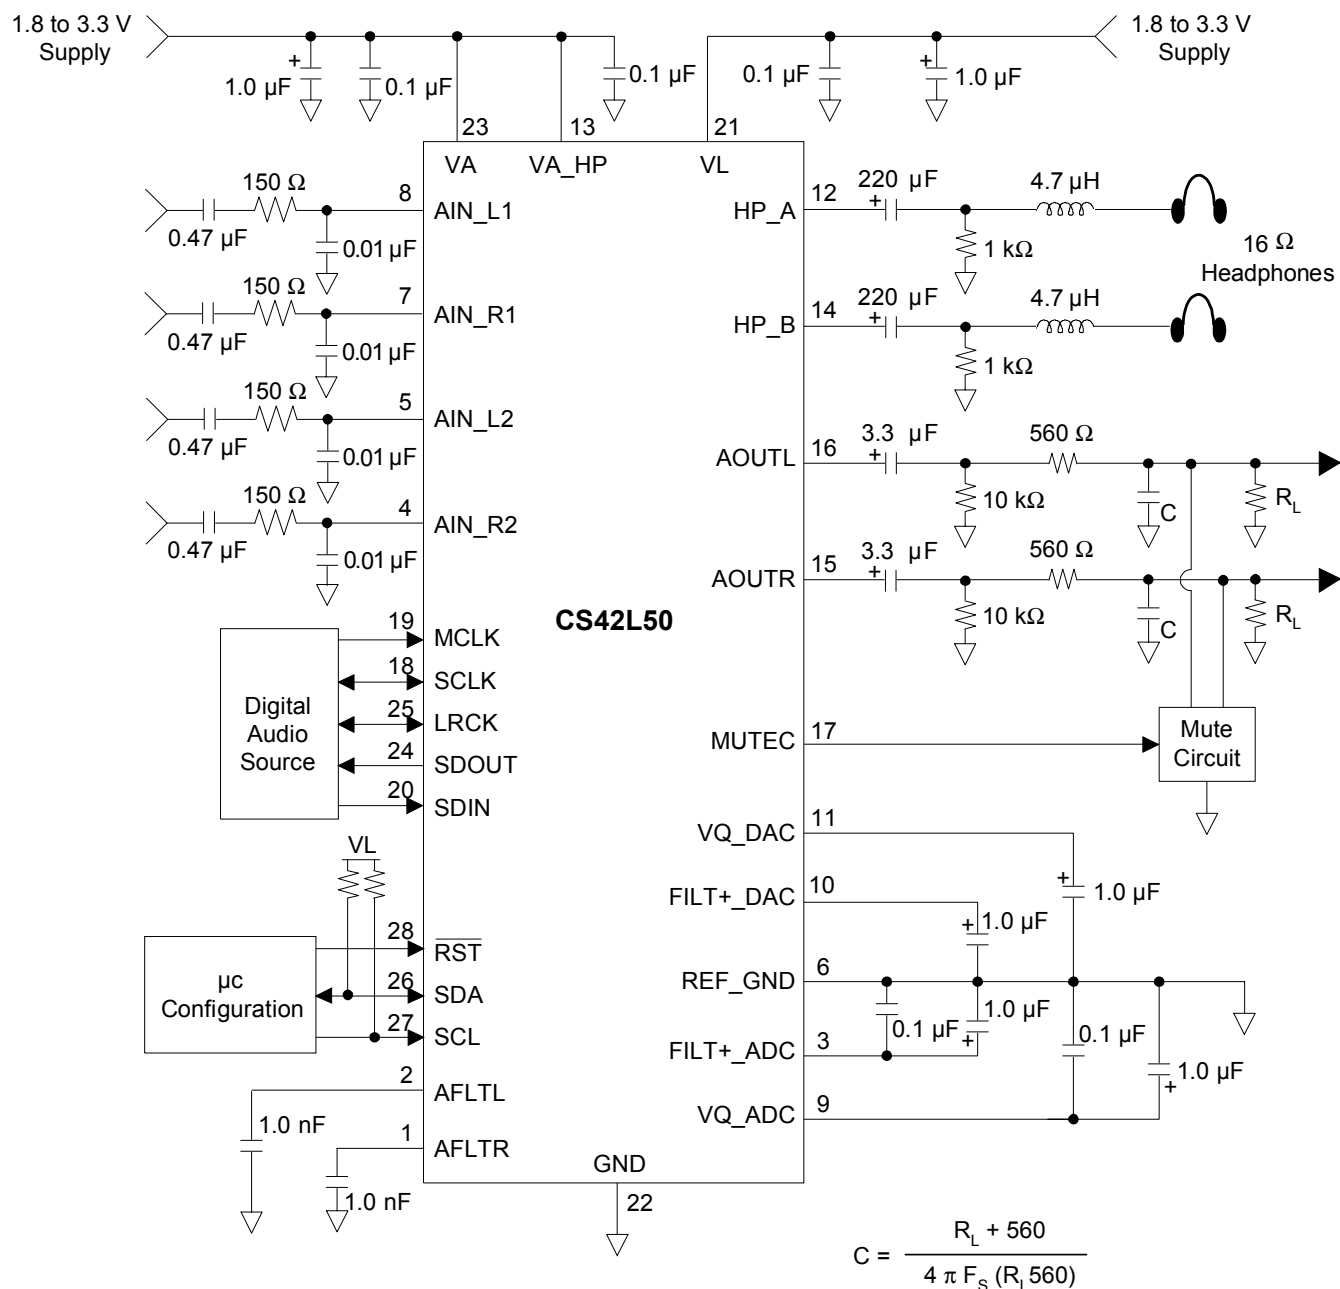

Figure 4. CS42L50 Typical Connection Diagram
14. Valid with the recommended capacitor values on FILT+_ADC, FILT+_DAC, VQ_DAC, and VQ_ADC as shown in Figure 4. Increasing the capacitance will also increase the PSRR. Note that care should be taken when selecting capacitor type, as any leakage current in excess of 1.0 μA will cause degradation in analog performance. A small ceramic capacitor in parallel with a larger electrolytic is recommended.
Notes: 15. V_A and V_{A_HP} should be tied to the same supply as shown in Figure 4.